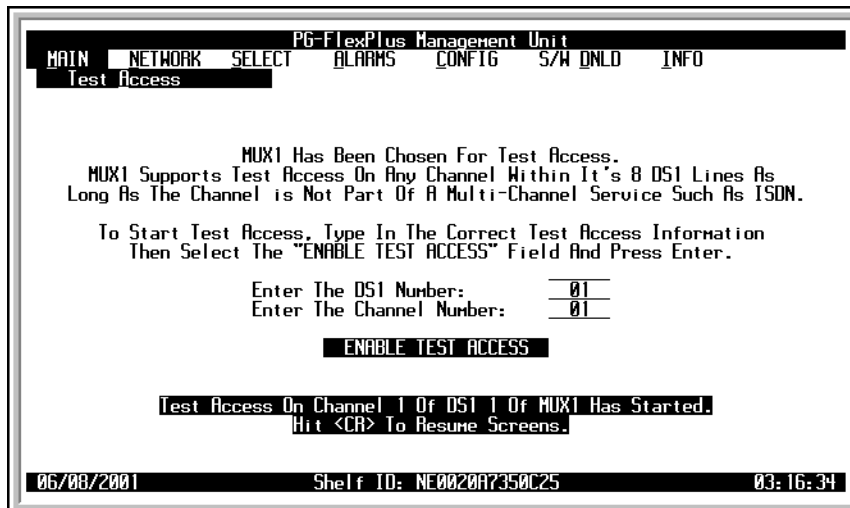

Figure 24. MUX1 Test Access Screen
- 4 Select the **ENABLE TEST ACCESS** button and press **ENTER**. A message will flash that the Test Access has started as shown in Figure 24. To resume screens press **ENTER**.